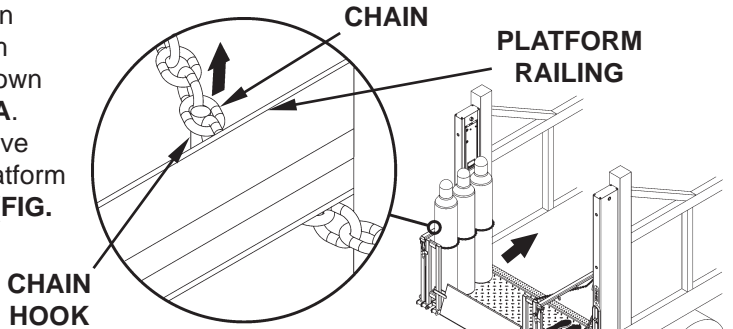

FIG. 13-2A
2. Unhook chain from platform railing as shown in **FIG. 13-2A**. Carefully move load from platform into vehicle (**FIG. 13-2B**).